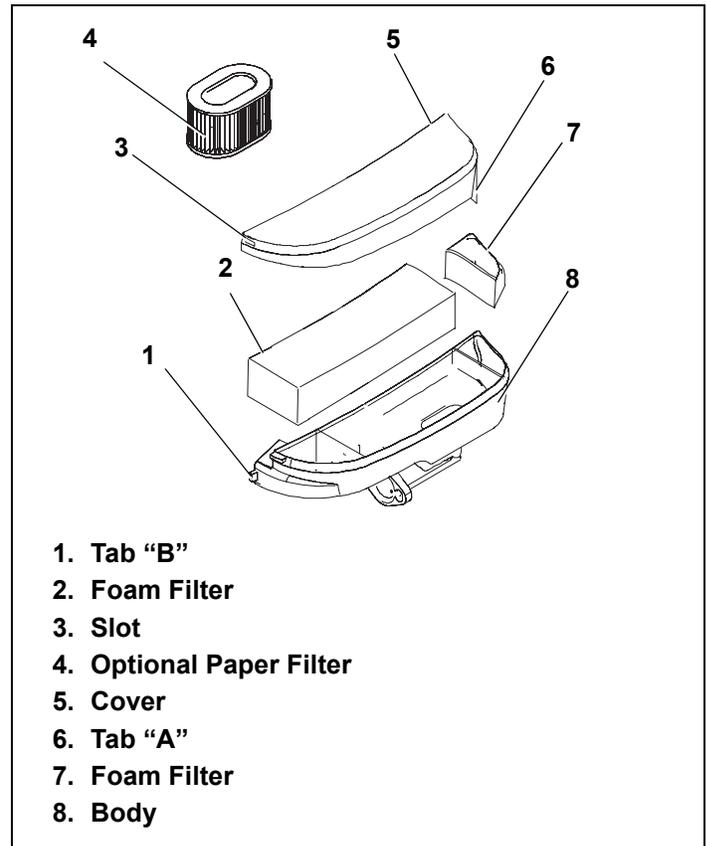

Figure 47. Air Cleaner Type "A" Assembly
Your engine has an air cleaner which helps prevent premature engine wear and failure. NEVER run engine without complete air cleaner installed on engine. Your air cleaner periodically needs to be cleaned or replaced. To do this, you first need to determine the type of air cleaner on your engine. Your engine will be equipped with one of the following air cleaners; Type A or B. Follow instructions for the air cleaner type that resembles your model. See Figures 47 and 48 on page 19. Afterward, continue reading instructions below.
1. Remove cover by pulling tab "A" away from body while lifting cover upward. See Figure 47.